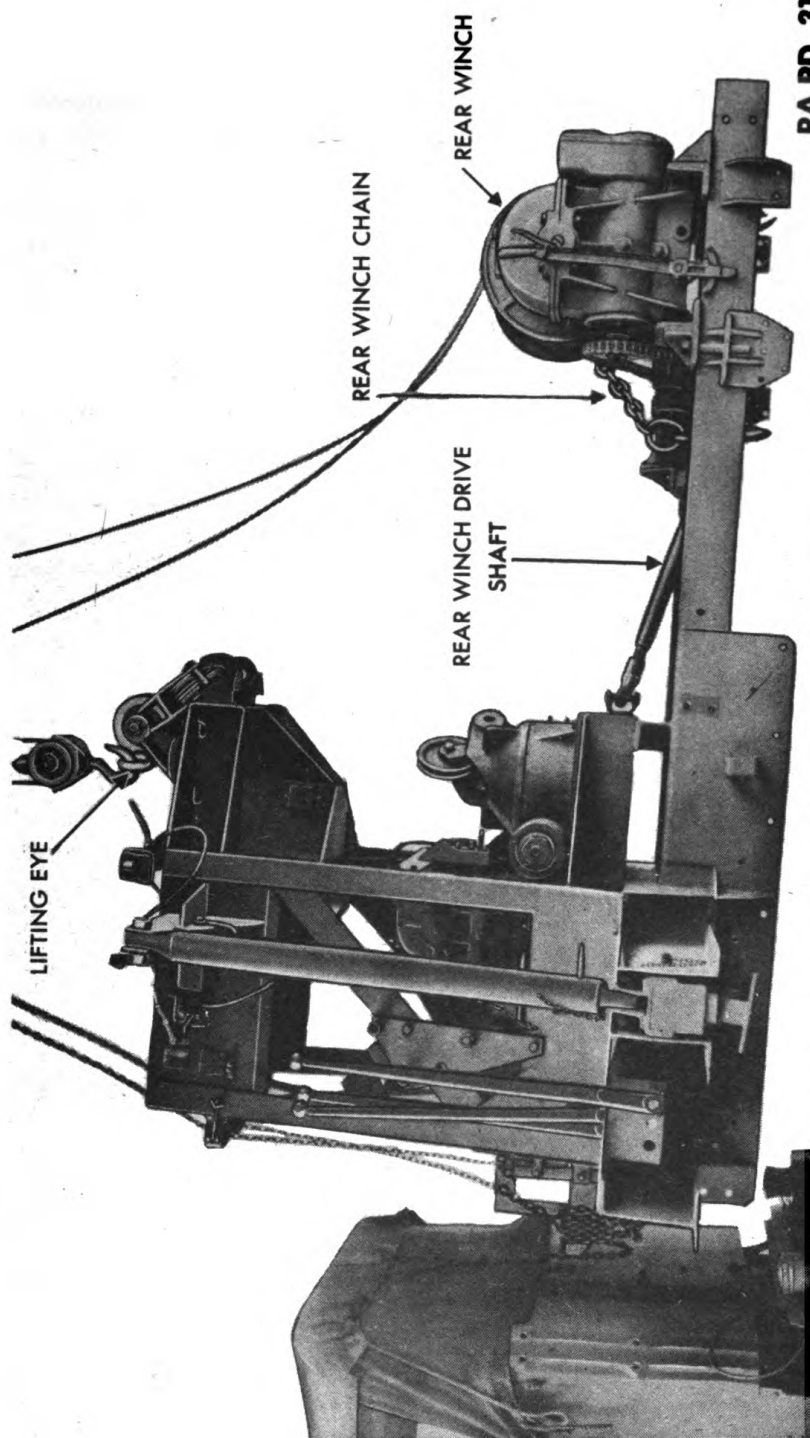

Figure 7 — Lifting Crane and Winch Assembly With Lifting Eye 41-I-610
b. **Remove Crane.** To lift crane from vehicle use lifting eye 41-F-610. Run the eye bolt through the boom cable opening of the topping pivot. Place a 4-inch washer on eye bolt and install two 1-inch nuts. Center the eye bolt under a chain hoist. Wind the rear winch cable chain around the rear winch drum. Raise the chain hoist until the crane is free of the vehicle (fig. 7).